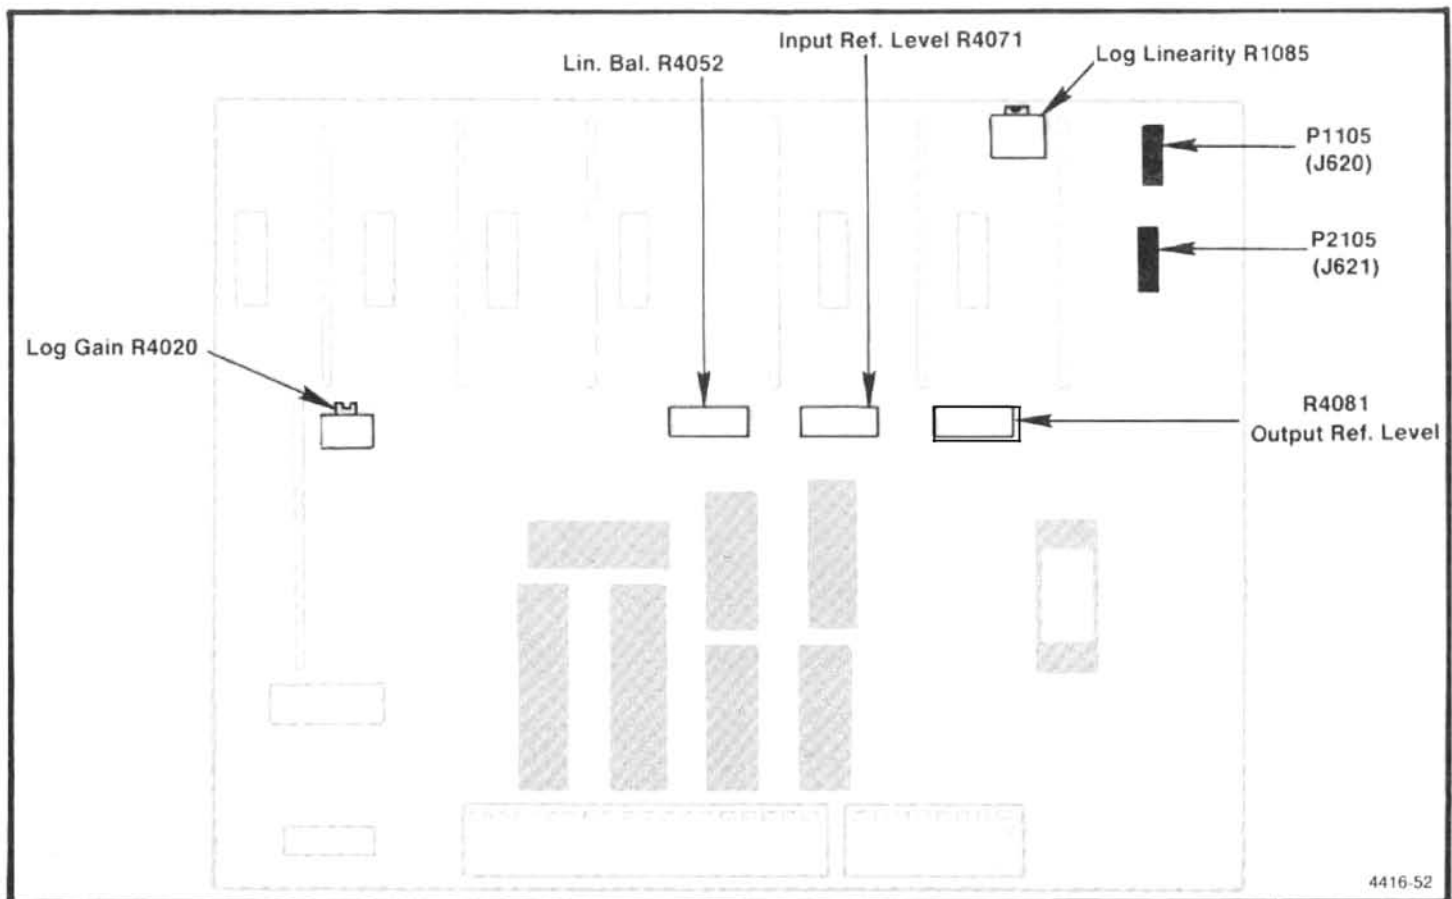
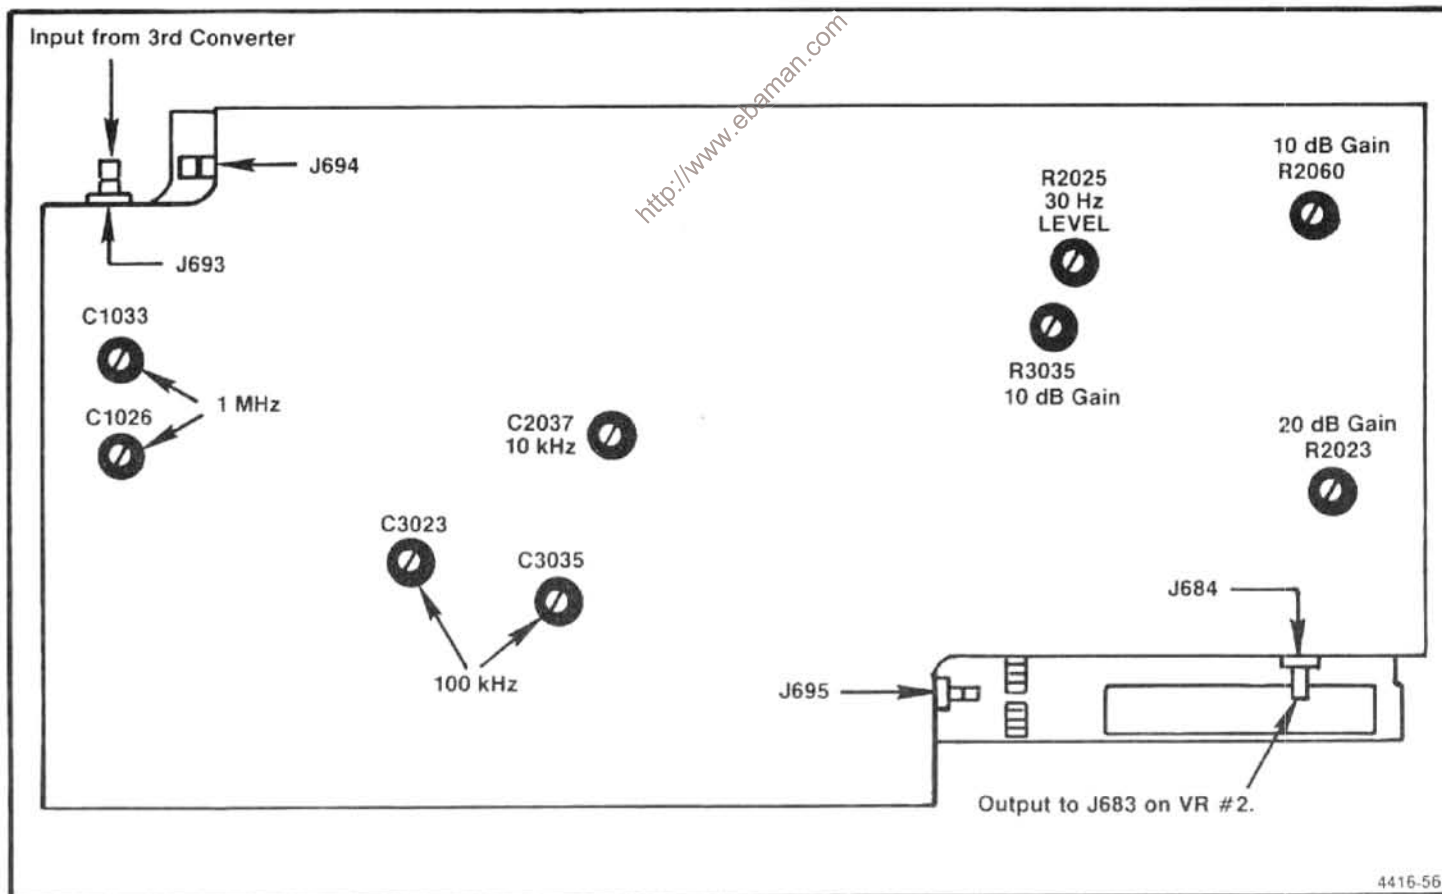

Figure 5-17. Location of test points and adjustments for calibrating the Log and Video Amplifier.
Figure 5-21. Adjustments on the VR#1 module.
signal from the signal generator through 10 dB and 1 dB step attenuators, to the input of the Log Amplifier at J621 (Figure 5-17). Set the step attenuators for 50 dB of attenuation.
g. Increase the attenuation through the step attenuators in 10 dB steps to 50 dB and adjust the Log Gain R4020 (Figure 5-17) so each 10 dB of change produces a division of change on the display.
i. Alternately switch the Vertical Display between 10 dB/DIV and 2 dB/DIV while adjusting Input Ref Lvl R4071 (Figure 5-17) for minimum amplitude change between the two displays.
l. Adjust Output Ref Lvl R4081 (Figure 5-17) for a full screen (eight divisions) display.
m. Switch to the 10 dB/DIV mode and set the step attenuators for 40 dB of attenuation. Adjust Log Linearity R1085 (Figure 5-17) so the display is mid-screen.
s. Press LIN and adjust Lin Bal R4052 (Figure 5-17) for a full screen display. Amplitude of LIN, 2 dB/DIV, and 10 dB/DIV display should now be the same.
i. Disconnect the 10 MHz third converter IF signal from the input to VR#2 input and reconnect it to J693 (the input of VR#1, see Figure 5-21). Connect the output of VR#1 (P683) through a Sealectro male-to-male adapter and coaxial cable to the input of the Log Amplifier at J621 (Figures 5-17 and 5-18).
l. Adjust the 10 kHz filter with C2037 (Figure 5-21) for best filter response shape around the 1 kHz reference.
n. Now, set the FREQ SPAN/DIV to 50 kHz, RESOLUTION BANDWIDTH to 100 kHz, and adjust the 100 kHz filter with C3023 and C3035 (Figure 5-21) for filter shape and centering about the 10 kHz filter reference.
o. Set the RESOLUTION BANDWIDTH to 1 MHz, FREQ SPAN/DIV to 500 kHz, and adjust the 1 MHz filter response and centering with C1033 and C1026 in the VR Input board (Figure 5-21). Deactivate SAVE A.
e. Disconnect P693 from the input to VR#1 module (Figure 5-21) and activate MIN NOISE. Apply a 10 MHz, -25 dBm signal, from the signal generator, through a bnc-to-Seaelectro adapter to J693. Adjust the generator frequency to peak the signal amplitude. (Signal amplitude should be between 3.5 and 6.5 divisions. If signal amplitude is not within these limits it indicates a gain problem in the VR.)
h. Switch MIN NOISE off, decrease the generator output to -35 dBm, leave the REF LEVEL at -20 dBm, and adjust the 10 dB Gain, R3035, on the 10 dB Gain board of VR#1 (Figure 5-21) so the signal amplitude is 7 divisions.
i. Change the generator output to -45 dBm, the REF LEVEL to -40 dBm, and adjust 20 dB Gain R2023 on the 20 dB Gain Step board (Figure 5-21) for a 7 division signal amplitude.
j. Change the generator output to -65 dBm, the REF LEVEL to -60 dBm, and adjust the 10 dB Gain, R2060, on the 20 dB Gain Step board (Figure 5-21) for a 7 division signal amplitude.